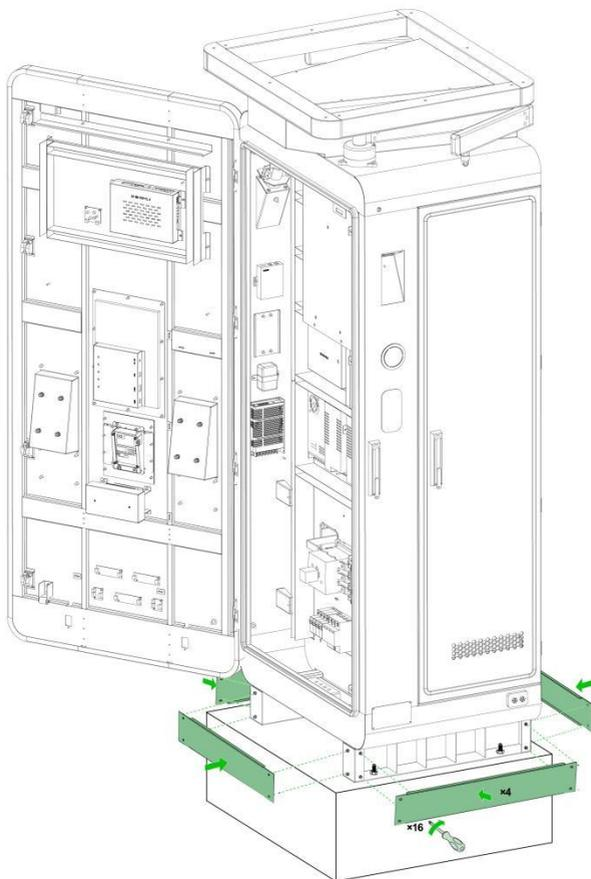

Figure 2.6.3 Install side cover plate
3. The charger is installed on 4 * M12 mm expansion bolts reserved or installed. After bolts are tightened, the front, back, left and right sealing plate shall be installed, as shown in Figure 2.6.3.